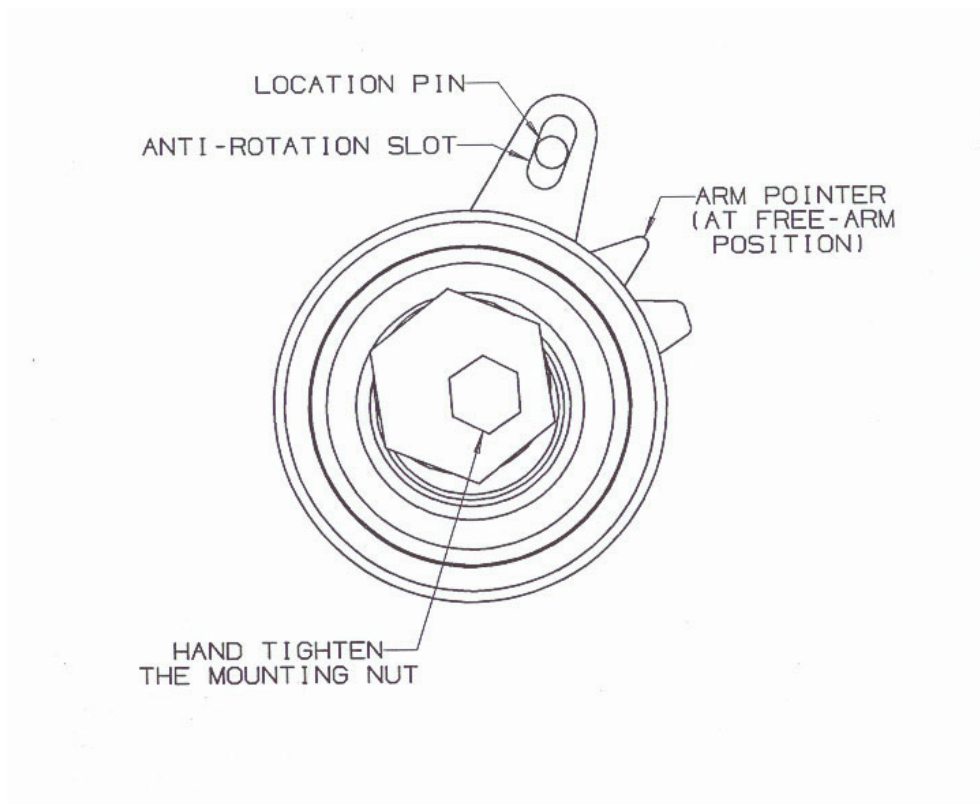

Figure 1: Tensioner shown at Free-Arm position placed on the mounting surface
3. Place a new tensioner onto the engine. Tensioner's Anti-Rotation Slot should fit over the Location Pin on the engine (See Figure 1).
4. Rotate the Installation Shaft until the tensioner has moved to extreme "away-from-belt" position then hand tightens the M8 Mounting Bolt (Also See Figure 1).
10. Engage the 32mm Wrench and retain its position while loosening the Mounting Bolt with the 13mm Wrench. The Mounting Bolt and the Tensioner do not need to be removed. Rotate the Installation Shaft COUNTERCLOCKWISE with the 32mm Wrench until the Arm Pointer returns to the Free-Arm Position (See Figure 1). Follow step #5~9.